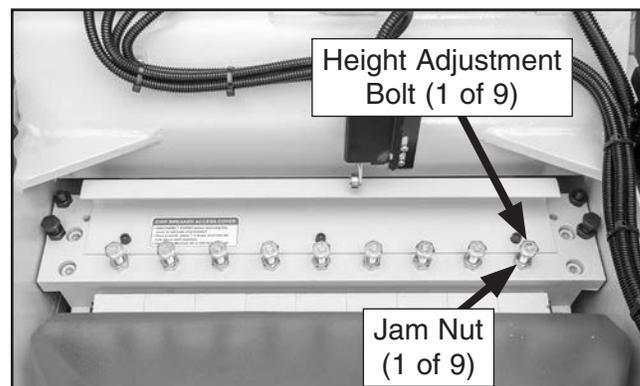

Figure 118. Location of chipbreaker height adjustment hardware.
5. Loosen chipbreaker segment jam nut and height adjustment bolt (see **Figure 118**).